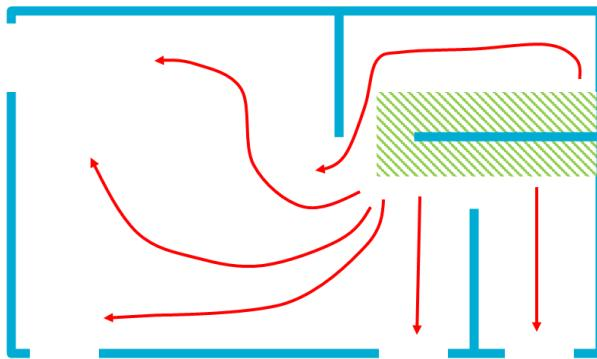

Figure 1: Strategic starting point
- **Plan, layout, and install from strategic starting spot;** please see Figure 1 as an example. Since the installer cannot put weight on tiles and must install from the unlaid side, the adhesive applicator must apply at a 2-tile width for the installer to reach far enough to place the tile. With a strategic layout, the "glue spreader person" can continuously keep moving from spot-to-spot while the "tile layer person" installs the tile. The "tile layer person" waits about 10 minutes for the adhesive to "firm-up" and "level-out" to then lay tile, again moving from spot-to-spot. Near edges, the tile layer must first cut and dry lay fit the tile before adhesive is applied. The installation must finish at an exit door.